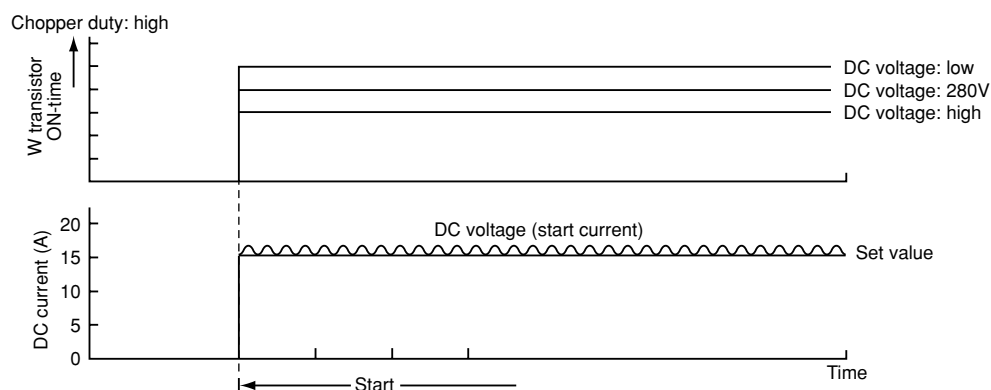

Fig. 8-10
- (2) Varies the turn-ON time of the W⁺ transistor according to the DC voltage level and the start is controlled so the start current is approx. 10A as shown in Fig. 8-10.